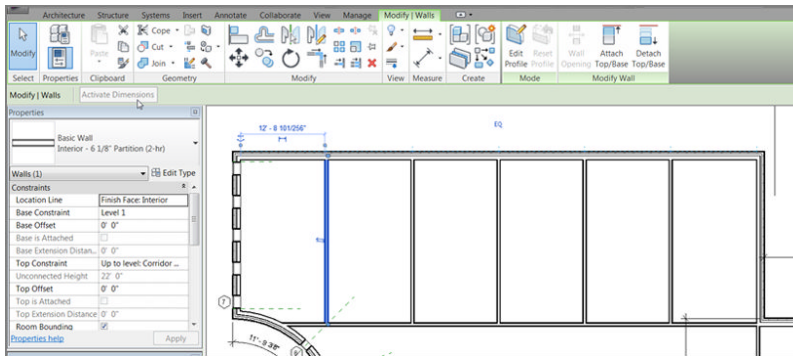

FIGURE 5.33: Unconstraining the walls
6. The EQ icon appears. Click it to release the constraint set for the walls (see Figure 5.33). You're now free to move around the building. (Note that the EQ icon may be hiding behind a wall in the middle of the array. Zooming out will make the icon larger and easier to pick.)